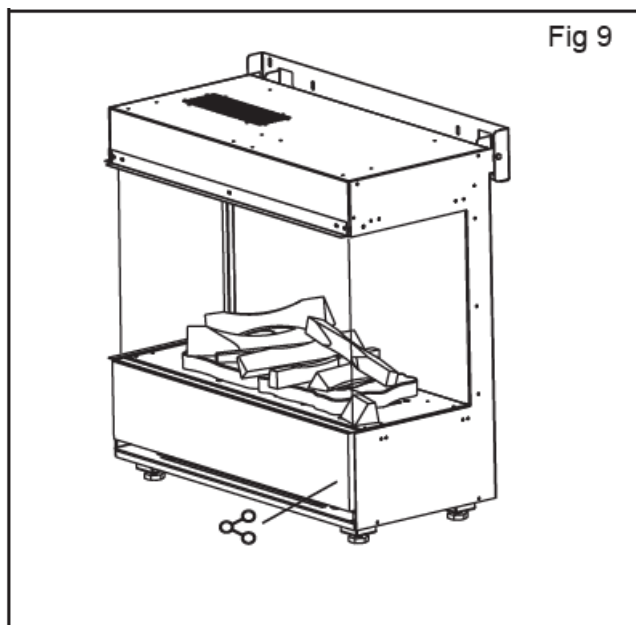

Fig 9
WARNING: Always press Switch 'A' to the 'OFF' (0) position (Fig 9) and disconnect from the power supply before cleaning the fire.
1. Open the drawer & press switch 'A' to the 'OFF' (0) position (Fig 9)